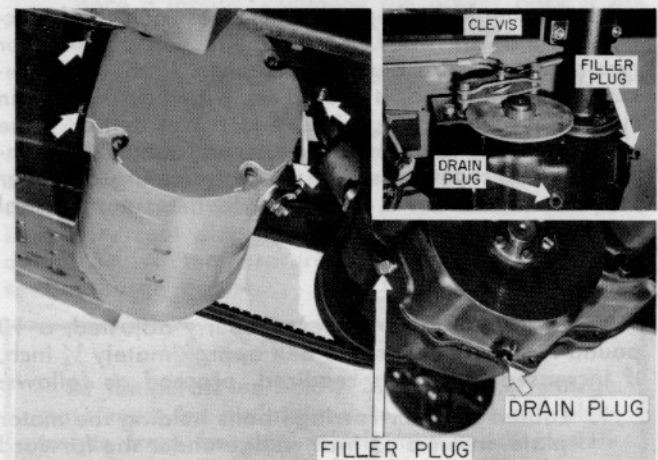
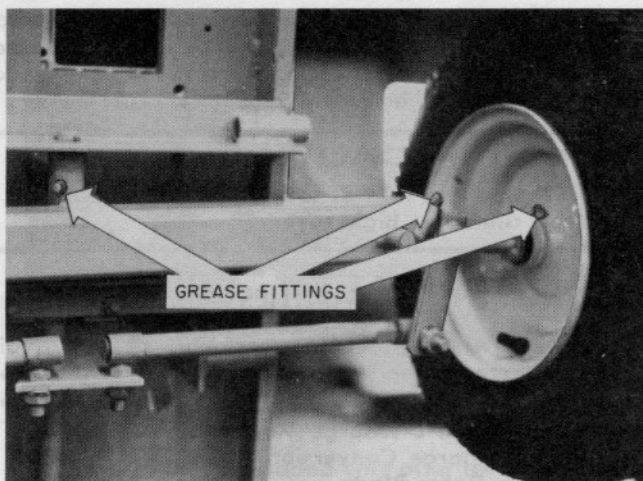

FIG. 20. Brake, Transaxle, and Motor Mounting
FIG. 21. Front End Grease Fittings
LUBRICATION (Fig. 20 & 21)
After every 100 operating hours, or every six months, the transaxle filler plug should be removed and the fluid level checked. (See Fig. 20). The oil level should be to the bottom edge of the filler hole. If necessary, replenish with SAE EP90. The front spindles, the front wheel bearings, and the front axle main pivot pin should be greased with a hand grease gun using a #2 multi-purpose grease. (See Fig. 21). Pump the gun until dirt and old grease are flushed out and wipe all surfaces clean.
1. Loosen the four carriage bolts holding the motor plate. Insert a $\frac{1}{4}$ inch wedge under the forward part of the motor plate, and retighten bolts finger tight. (See Fig. 20).
A fully depressed brake pedal or an engaged parking brake should prevent the tractor from rolling on average hillsides. If the brake does not perform satisfactorily, see the following adjustment procedure: (See Fig. 20 insert).